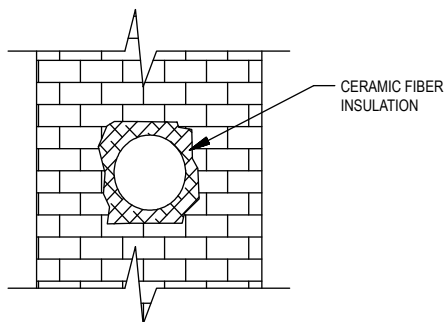

Figure 31
**(j). Insulation.** Pull the Pipe Collar towards the 90° Elbow. Fill in the gap between the masonry and the horizontal Pipe Section with ceramic fiber insulation, as shown in **Figure 31**. The filling may be faced off with grout, if desired. Push the Pipe Collar back flush with the masonry. Make any final adjustments on the Adjustable Length Pipe (if used), and tighten the clamping bolts.